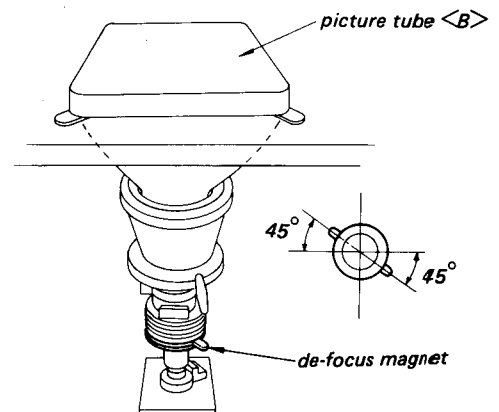

Fig. 3-4
- 4) Set the de-focus magnet as shown in Fig. 3-4 and apply suitable locking compound.